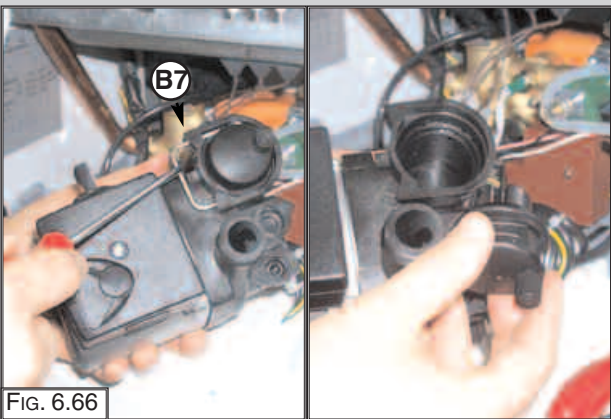

FIG. 6.66
6. Remove the U-clip "B7" and remove the automatic air vent (FIG. 6.66);